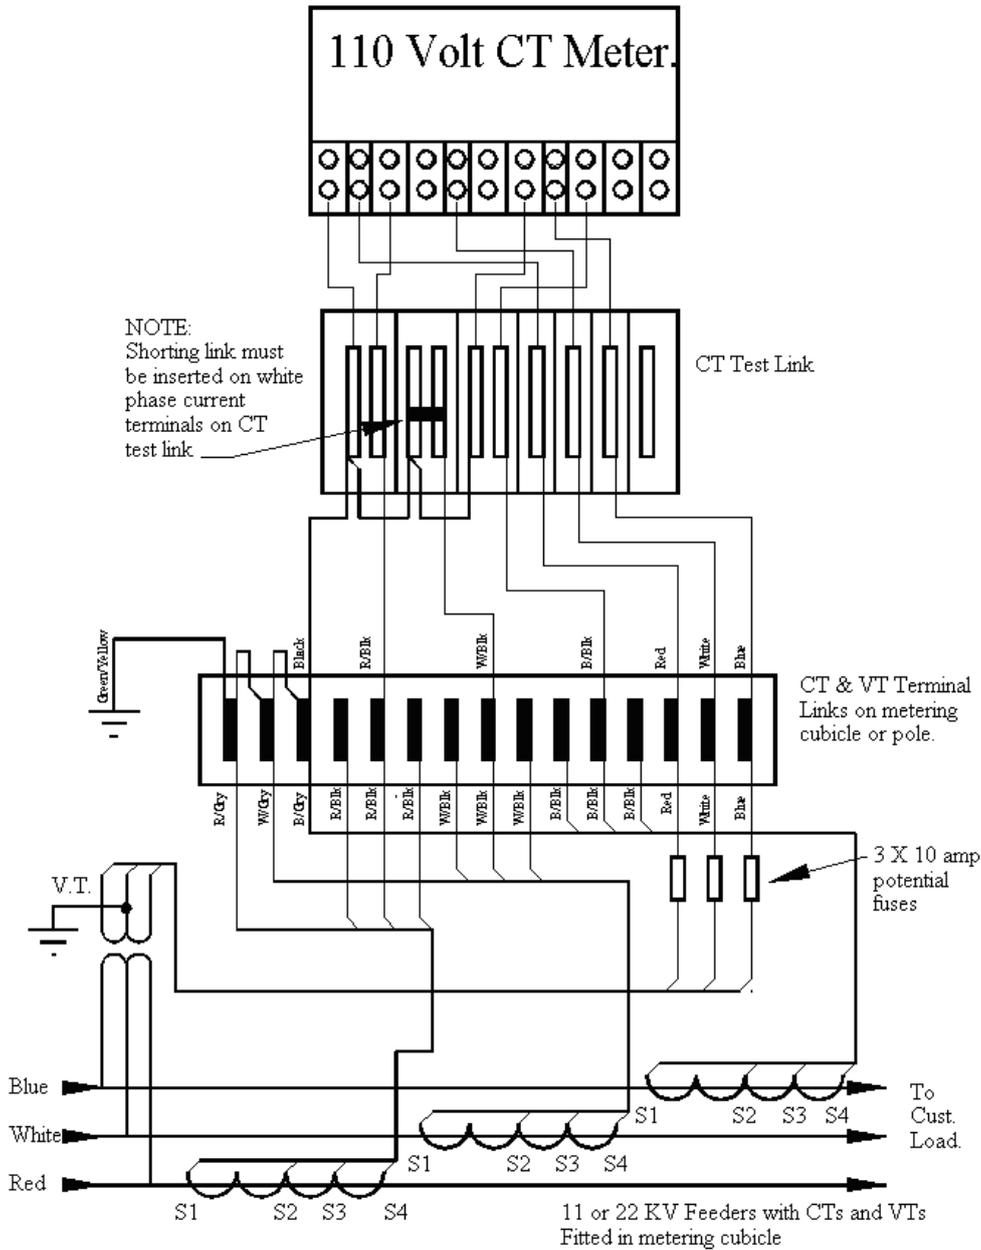

Figure 17 Wiring diagram for two-element star VT with three available CTs
- A connection from the white phase voltage terminal must be made to the meter neutral terminal. EDM I recommends that the white phase VT secondary also be connected to the white phase meter input (in addition to the meter neutral), as shown in Figure 17.